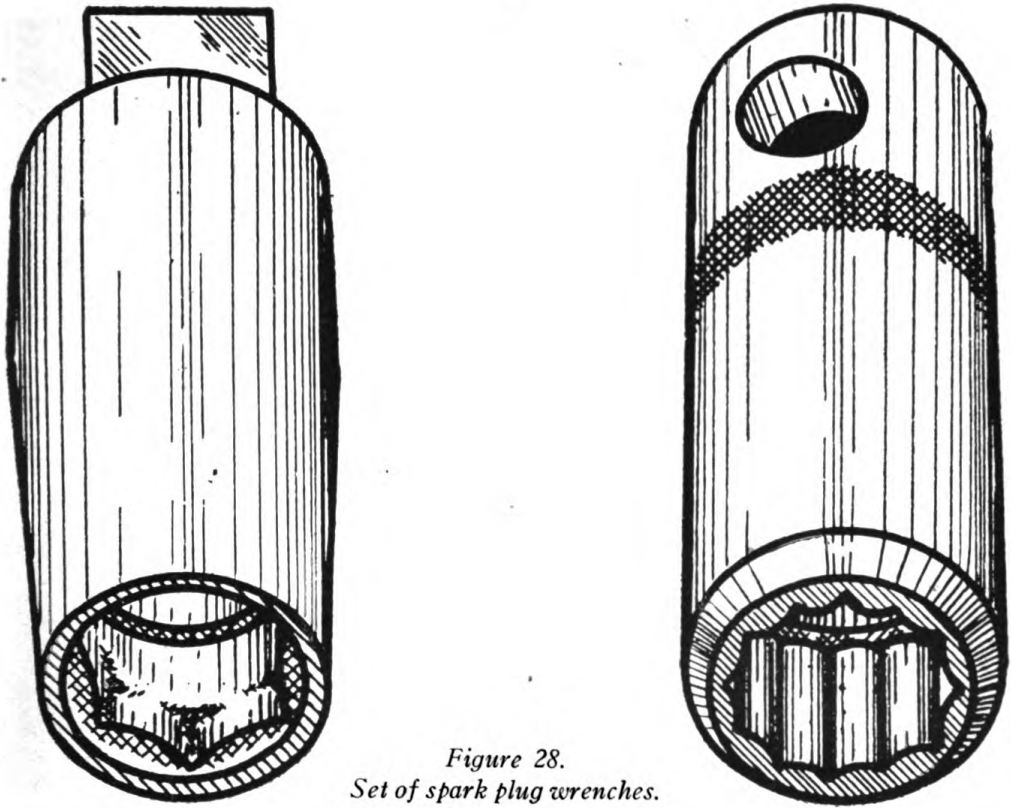

Figure 28.
*h.* SPARK-PLUG WRENCH. The spark-plug wrench is similar to a socket wrench but is much longer. The upper part of a spark plug protrudes so far that an ordinary socket does not reach to the hexagonal-shaped part of the spark plug. The spark-plug wrench is made deep enough that it will fit over the upper part of the spark plug and grip the hexagonal band near the base. These wrenches are made in various sizes, one of which fits every size of spark plug. They will fit standard socket handles and are used as any other socket wrench is used. Figure 28 shows a set of spark-plug wrenches.